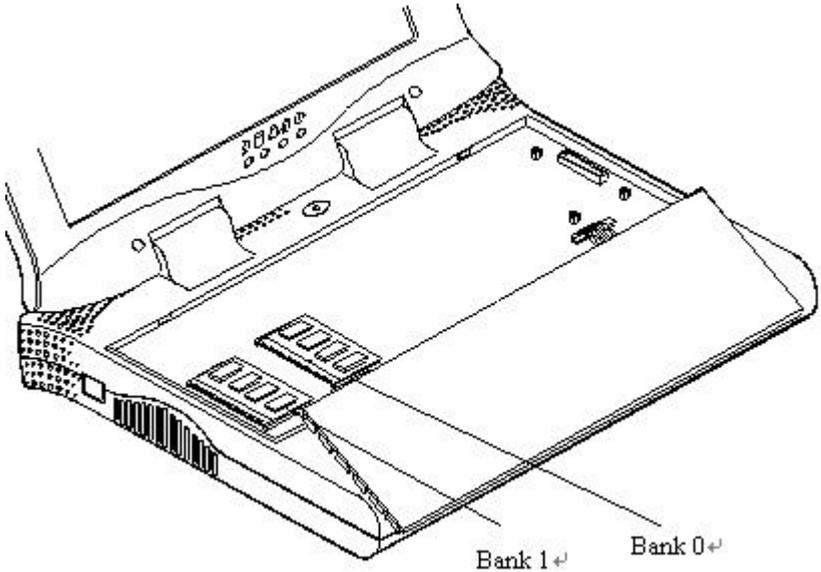

Figure 2-7
- Carefully lift the keyboard assembly out so that the mainboard is exposed. Locate the memory sockets (Figure 2-7).
- Carefully lift the keyboard assembly out to expose the mainboard. Locate the memory sockets (Figure 2-7).